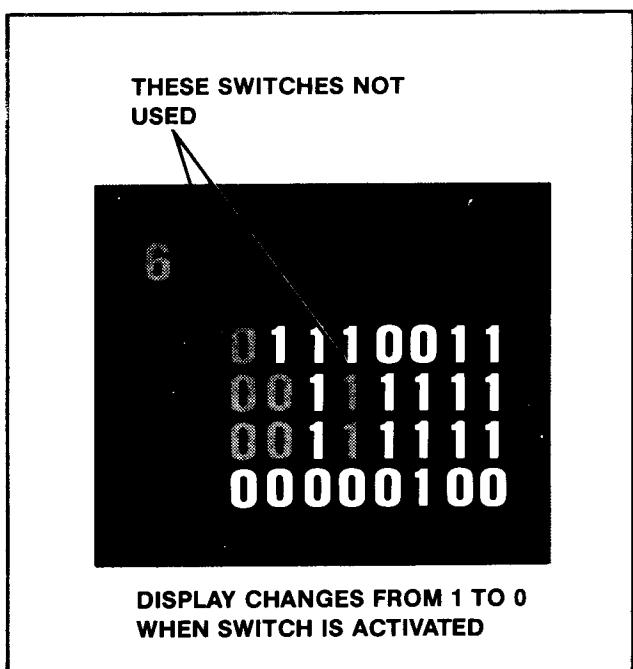

Figure 3-3 Self-Test — Player Input
- During the Player Input Test Display the game will give a display which looks like that shown in Figure 3-3.